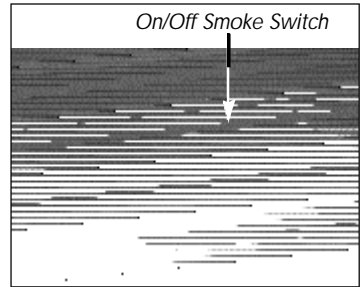

Figure 5 - Smoke Switch
2. If you choose not to prime the unit with fluid, turn the smoke unit switch located under the tender to the OFF position. (See Fig. 5 on page 11)
If you choose not to add the fluid (or have **■**ready added the fluid but choose to run smoke free), turn off the smoke unit switch located under the tender body. (see figure 5) Failure to either add fluid to the unit or to turn it off may damage the smoke unit heating element and/or wicking material.